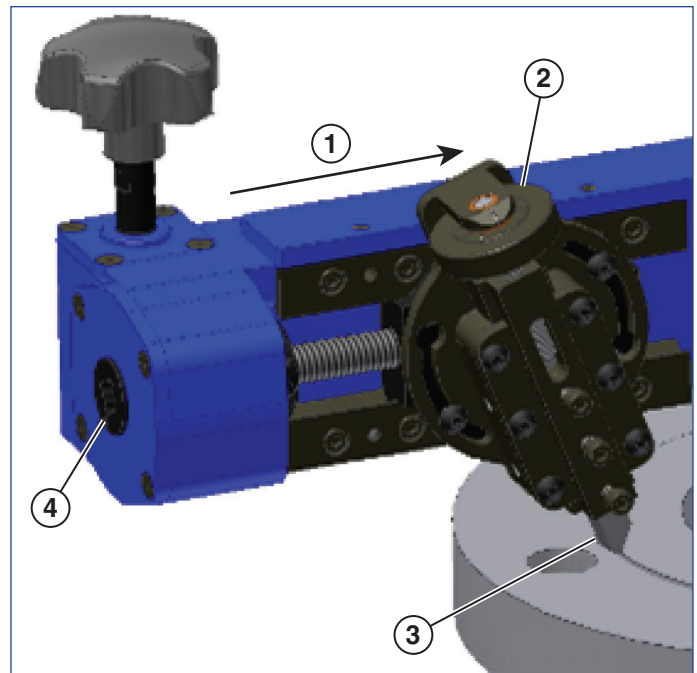

Figure 12
3. Insert a ratchet wrench into the end of the feed screw. Use the depth adjustment knob and the ratchet wrench to position the tool bit slightly above the work piece (see Figure 12).